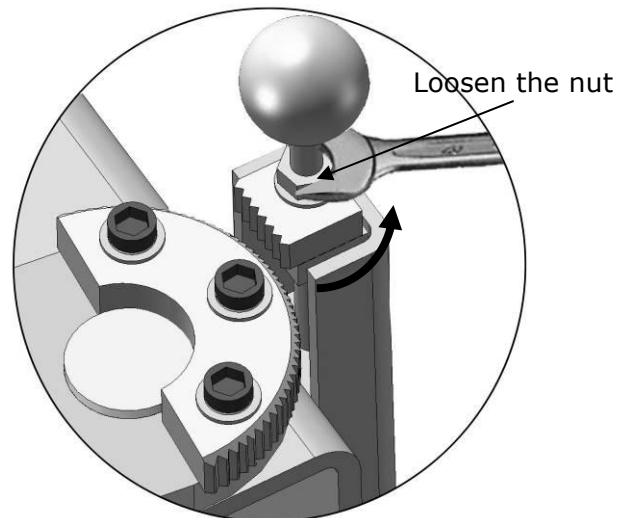

Fig. 23
2. Lowering the carriages down to the lowest position, then use the 17# wrench to loosen the nut (See Fig. 23)